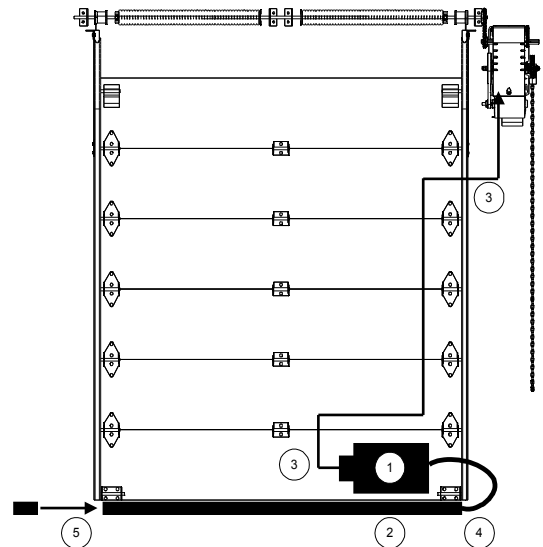

Figure 30 - Reversing Edge
1. Place the air switch in position, refer to Figure 30.
1. Place the junction box in position, refer to Figure 30.